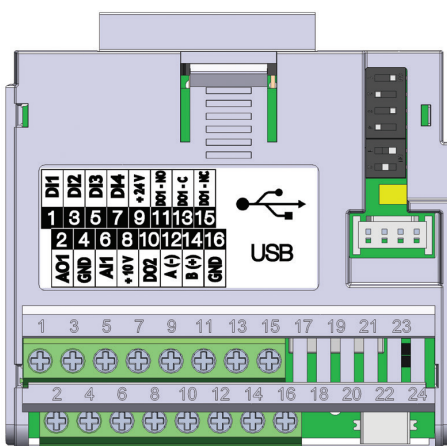

Figure 17.3: Plug-in module CFW500-CUSB
The CFW500-CUSB plug-in module has Serial (1) interface through RS-485 port at terminals 12(A-) and 14(B+), as well as the Serial (2) interface through USB port at standard connector mini USB (mini B), see Figure 17.3 on page 17-1.